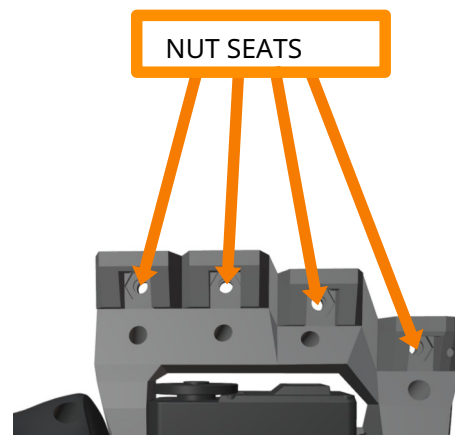

Figure 5.14: Nut seats
2. Place the nut in its seat on the front of the skeleton (figure 5.14)